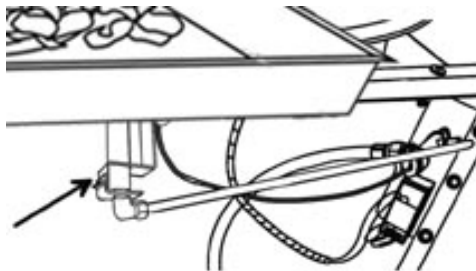

Figure 7
2. Disconnect the gas tube from the orifice and remove the orifice holder as shown in Fig .7.